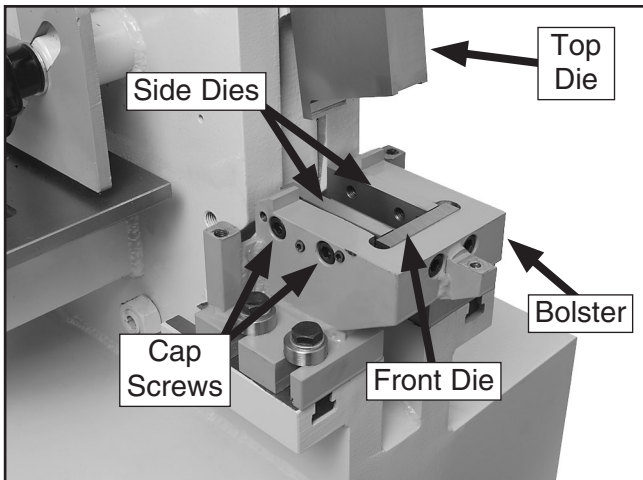

Figure 27. Notching dies.
- Put on heavy leather gloves, hold the bottom dies (two side and one front) as you remove the cap screws that secure them to the bolster, then remove the dies (see **Figure 27**).